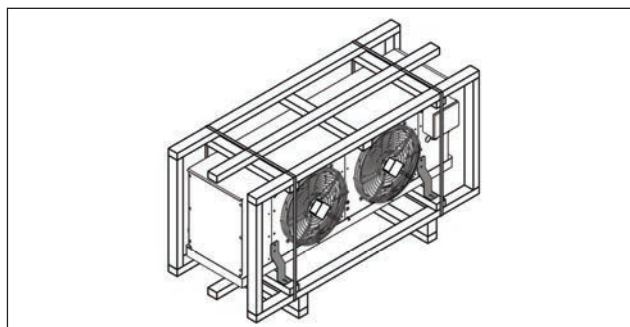

Fig. 8.2
1. The unit cooler should be delivered packed to the installation position. Check the packaging. Any damages must be immediately reported to the supplier of the equipment in writing (Fig. 8.2).